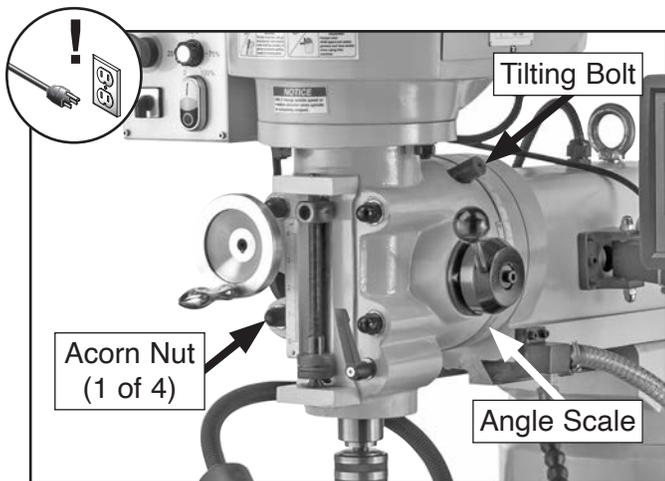

Figure 24. Head tilting controls.
2. Loosen (4) acorn nuts that secure head to ram (see **Figure 24**).
3. Rotate tilting bolt until head is in desired position (see **Figure 24**).